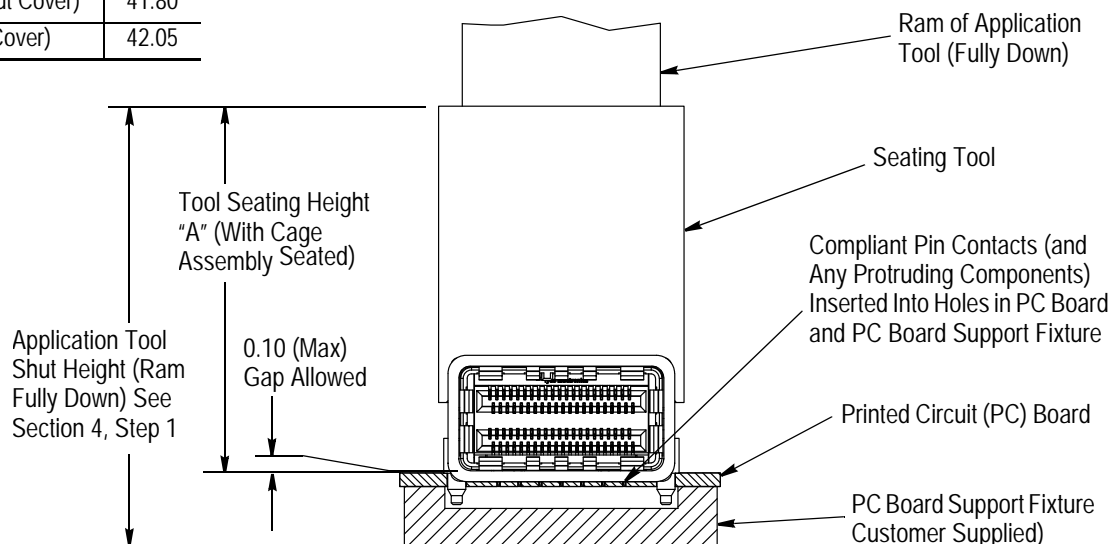

Figure 2
1. Set the tool seating height to the dimension shown in Figure 2 (application tool shut height will equal the tool seating height PLUS the combined thicknesses of the pc board and support fixture). After seating, a gap of no more than 0.10 mm between the cage assembly standoffs and the pc board is allowed.
5. SEATING (See Figure 2)
- Added table to Figure 2